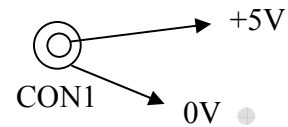

Fig.1 Power adaptor input
- CON1 : Power adaptor input, 5V input, polarity as Fig.1
② USB Connector:
③ Audio and Video Ports: